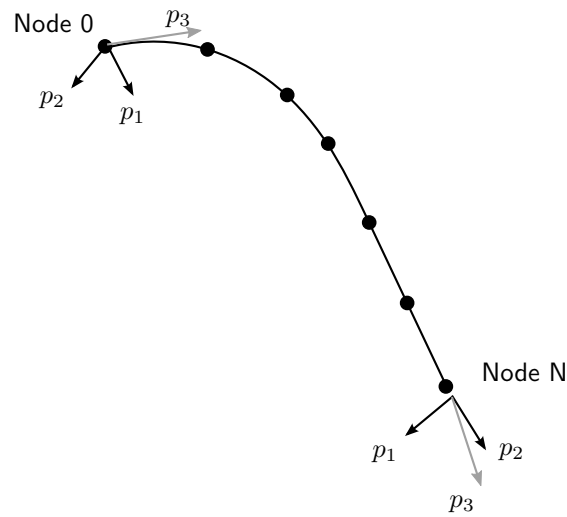

Figure 50: Relationship between p_1 and p_2 vectors and cable tangent definition at node 0 and node N
- ✦ The tangent direction, p_3 , of a cable at node 0 and node N of a cable is defined by the p_1 and p_2 unit vectors as shown in Figure 50. To make a clamped cable connection with a rigid body, p_1 and p_2 are defined in terms of the rigid body reference frame within the cable connection. By defining these directions, the cable is constrained in torsion and bending.